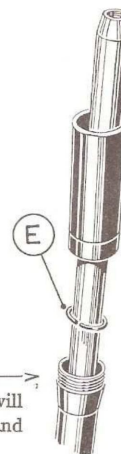

Fig. X2.
The most convenient way to dismantle the forks is to remove each leg separately, having first detached the front wheel and mudguard. Remove the filling plug at the top of the leg (A, Fig. X2) and then slacken off the pinch bolt on the bottom yoke (B).
Having withdrawn the leg it should be held in a vice by the lug at the bottom through which the wheel spindle normally goes, and the spring should then be lifted off. The lower spring seating is slotted to accommodate a special unscrewing tool, B.S.A. Service Tool No. 61-3005, consisting of a tubular member with suitable dogs to engage in the slots, and with this the spring seating, together with the tubular sleeve which normally encloses the lower part of the spring, can be unscrewed (D, Fig. X2).